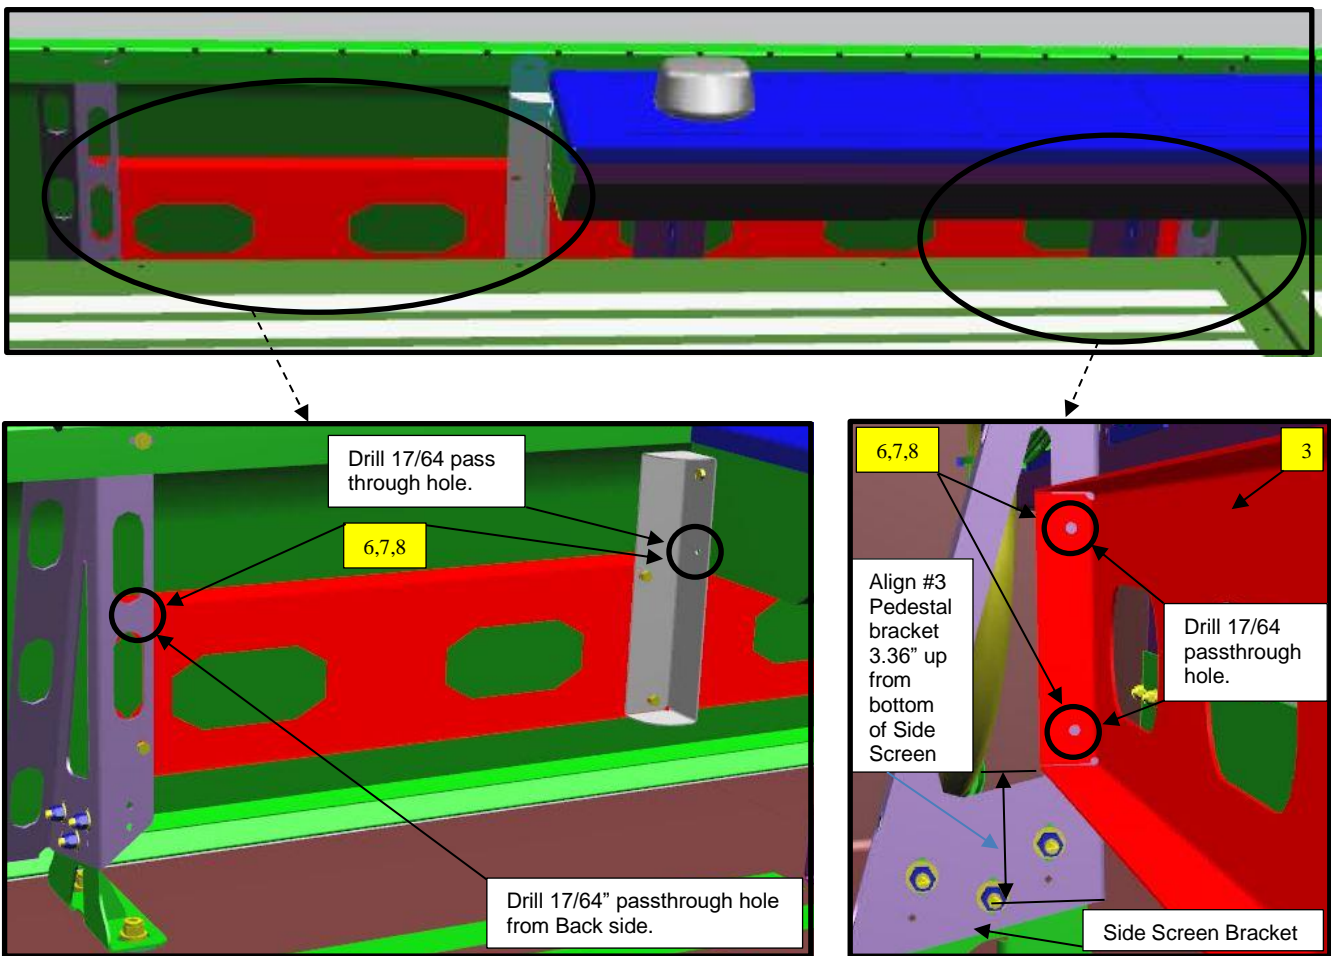

Figure 3: Antenna pedestal mounting bracket hole locations
7. Align Item #3 Antenna pedestal support bracket 3.36" up from the bottom edge of the upper side screen bracket. See Figure 3.
9. Drill four 17/64" pass through holes for the remaining hardware in the locations identified using the existing holes in the mounting brackets as a template. See Figure 3.